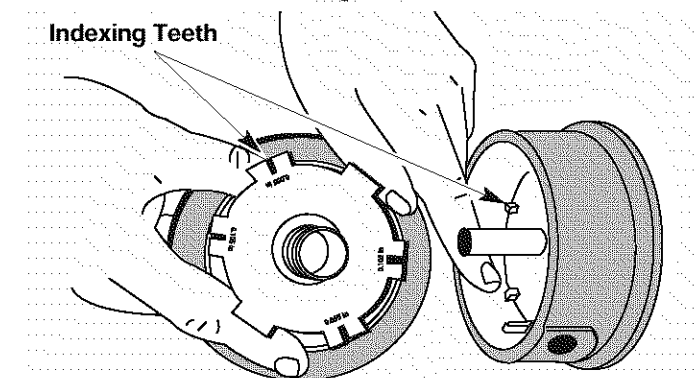

Fig. 29
- Check the indexing teeth on the inner reel and outer spool for wear (Fig. 29). If necessary, remove burrs or replace the reel and spool.